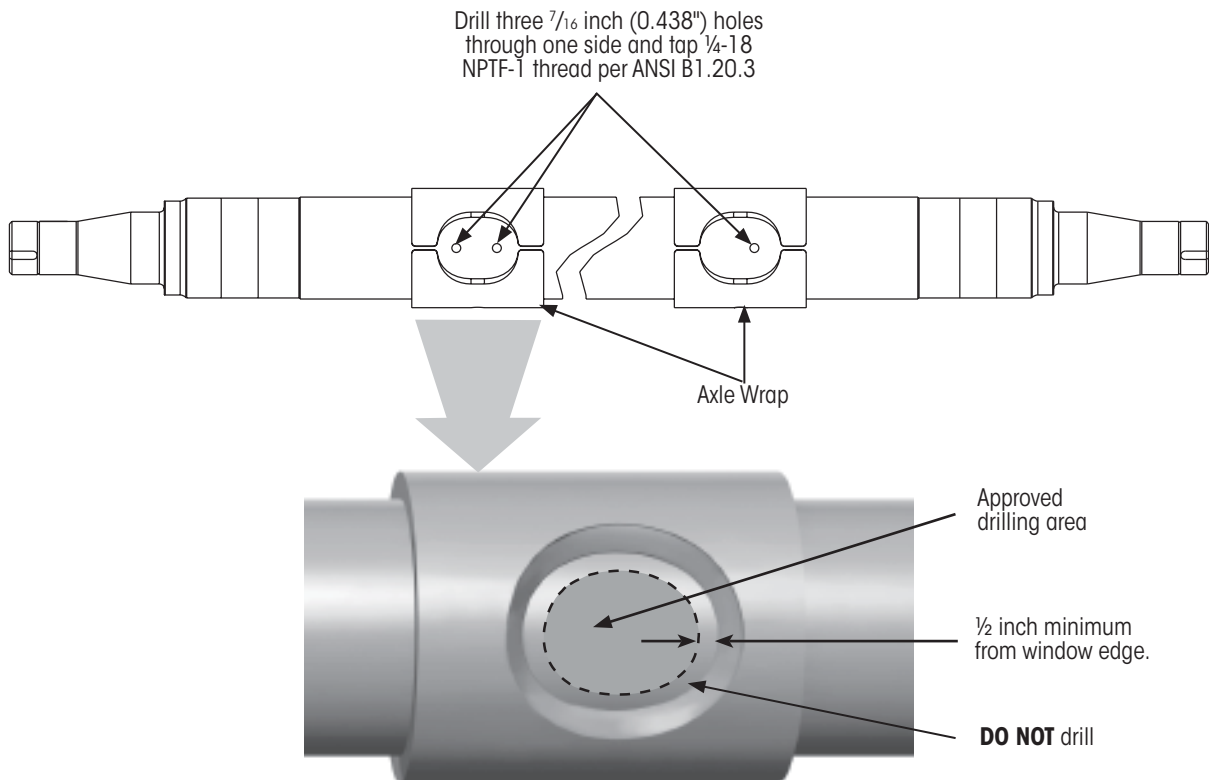
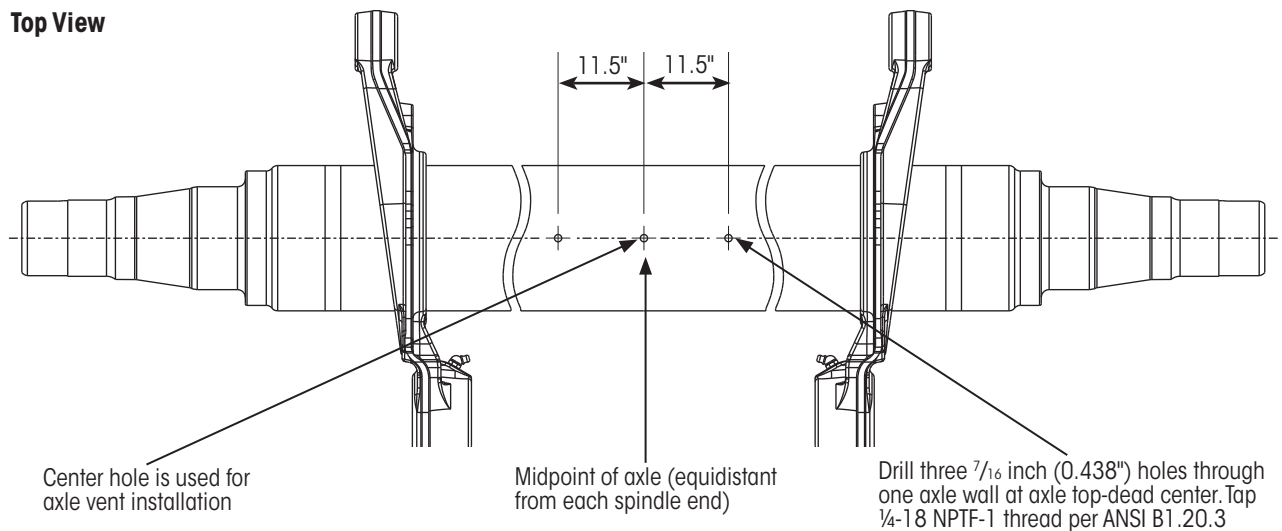

Figure 8: INTRAAX® / VANTRAAX® suspension axle drilling details
Figure 9: Hendrickson TRLAXLE® drilling details
9. Using the information in Figure 8 or Figure 9, drill and tap three ¼ inch - 18 NPT holes in the axle wrap windows (on INTRAAX® and VANTRAAX® suspensions) or at the midpoint of the axle (on Hendrickson TRLAXLE Trailer Axles).
NOTE: Figure 9 drilling details are for Hendrickson TRLAXLE®. If other than TRLAXLE, **CONTACT HENDRICKSON**.